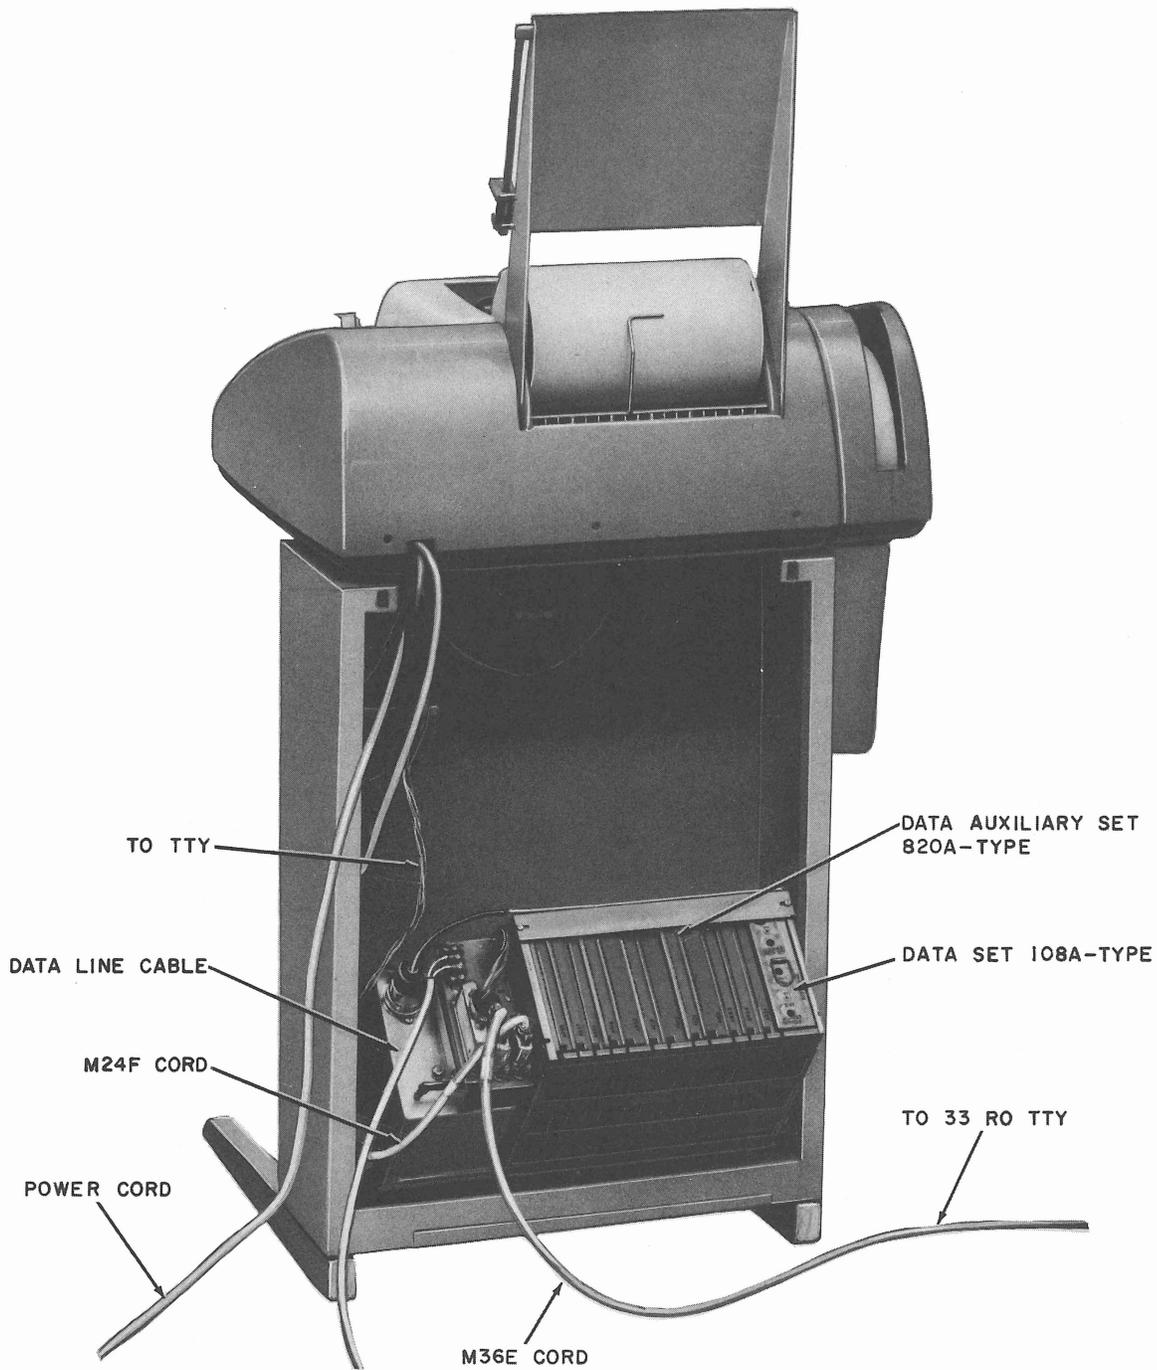

Fig. 1—Model 33 ASR, Rear View With Data Auxiliary Set 820A2 in Maintenance Position
- (1) Rotate latch counterclockwise. This allows DAS 820A2 to pivot on the 91A bracket.
- (2) With both hands on DAS 820A2, gently pull top towards rear of station (Fig. 1).